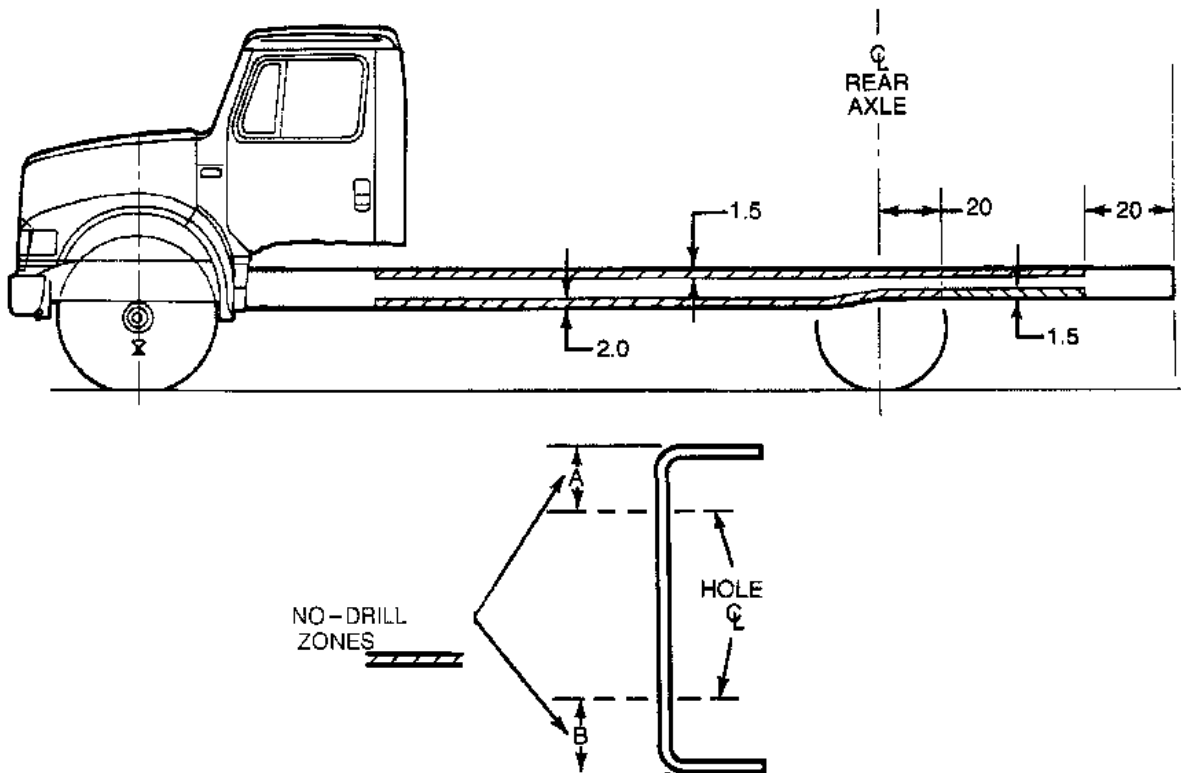

Figure 22 Drilling Restrictions for 1000, 2000, 4000 Series Frames
2. Figure 5B gives recommended dimensional data and attachment specifications for a typical installation. Holes drilled for the attachment must be within the guidelines of Figure 21, Figure 22, Figure 23, Figure 24, and Figure 25.
1. Never drill holes into the restricted areas of the frame rails. Refer to Figure 21, Figure 22, Figure 23, Figure 24, and Figure 25.